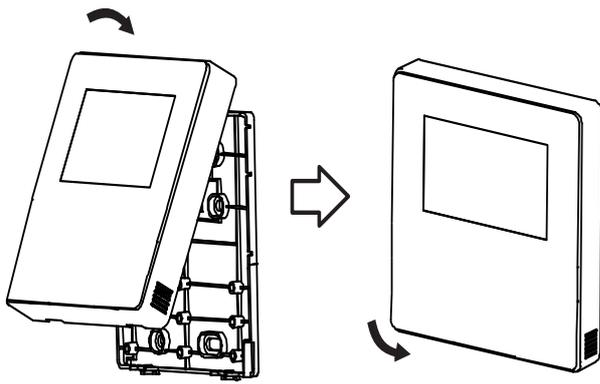

Fig.9
1. After adjusting the front cover and then buckle the front cover; avoid clamping the communication switching wire during installation. (Fig.9)